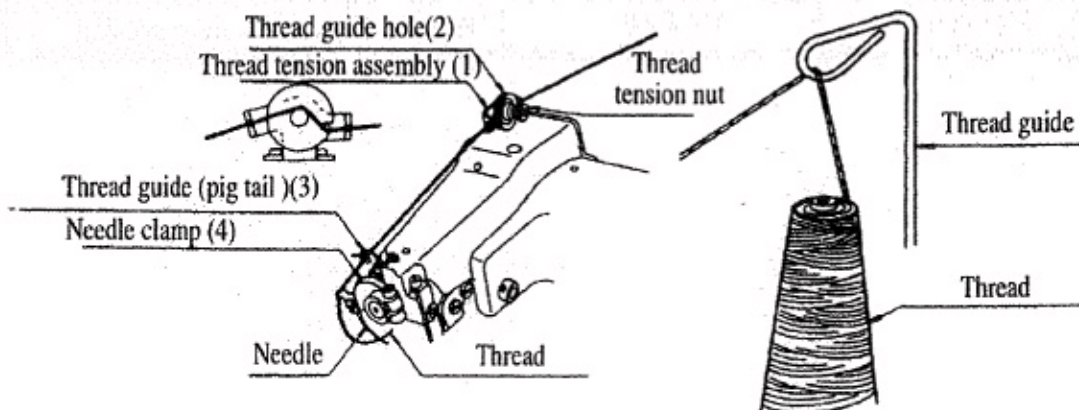
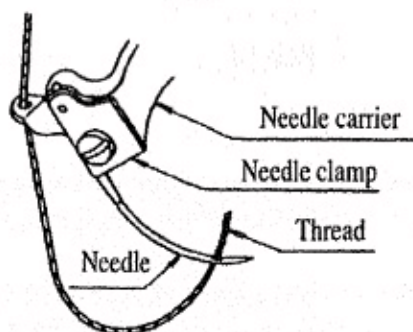

FIG.9
FIG.11
##### A. Put the thread on the plastic cap (Fig.9)
C. Please refer to Fig.9 to thread the machine correctly.
When the thread is up to the thread guide assembly (1), draw the thread through thread guide hole (2), out of the front hole (Fig.9), thread guide (3) and the hole of the needle clamp (4) from top to bottom. Please note that the direction of the needle is over left, draw the thread upward through out of the needle hole (Fig. 11),